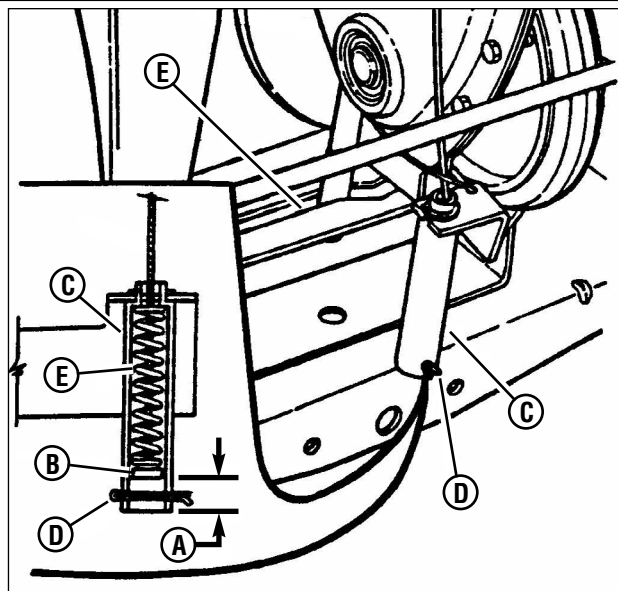

Figure 40: Adjusting the brake cable
5. Measure the distance (A, Figure 40) between the end of the clutch/brake cable (B) and the bottom of the housing (C). The measurement should be 3/4".
NOTE: The cotter pin, brake spring, and clutch yoke (D, E, and F, Figure 40) are noted for reference purposes only.
7. Adjust the cable up or down using the jam-nuts to obtain a distance of 3/4" between the end of the clutch/brake cable (adjustment shown in inset of Figure 40) and the bottom of the housing.
5. Move the transmission shift lever to the neutral (N) position.
6. Rotate the clutch yoke (F, Figure 40) out with your hand and work the belt between the drive disc and the rubber driven disc.